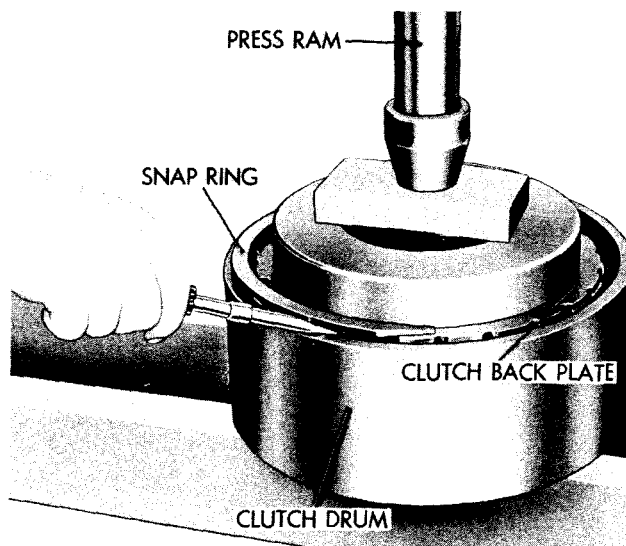

Fig IX-10. Removing (or installing) internal-snap ring
(3) Place the clutch assembly in a press, and press down on the clutch back plate. Remove the internal-snap ring with a screwdriver while the clutch back plate is depressed (fig. IX-10).
back plate and install the internal-snap ring (fig. IX-10).